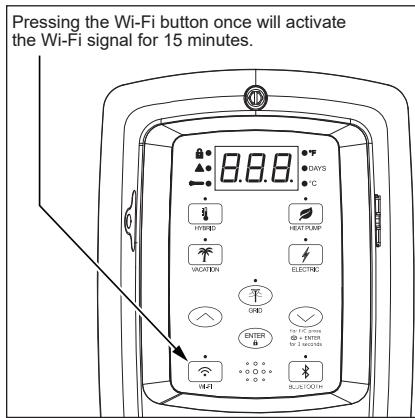

Figure 27 - Wi-Fi Control
- 1** To activate the Wi-Fi signal, press the Wi-Fi button once. The LED will blink on and off in 1/2 second intervals. Wi-Fi will activate pairing mode (Figure 27).